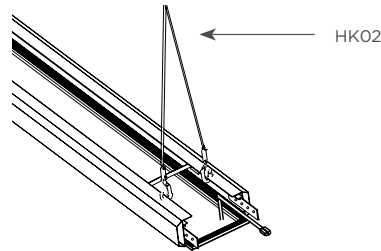

Figure 4
- 6 For Hanging option:** Attach TILT® HK02 cables to the ceiling or ceiling substrate at intervals corresponding to the holes on each frame section. **Reminder!** HOLE SPACING WILL DIFFER DEPENDING ON THE FRAME SECTION TYPE. Use a laser level to level the entire continuous run. Then install one HK02 cable to the pre-drilled holes on top of section A as shown in Figure 4.